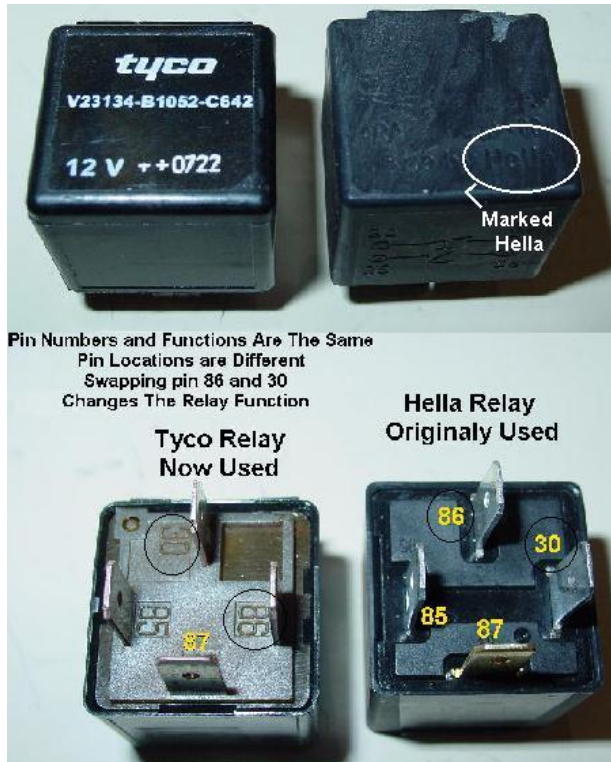

Fig. 1a Relay Identification
1. Identify that your harness has Tyco relays. If Hella relay are present the harness is wired correctly. Figure 1a illustrates the two different relays. Also shown if the pin